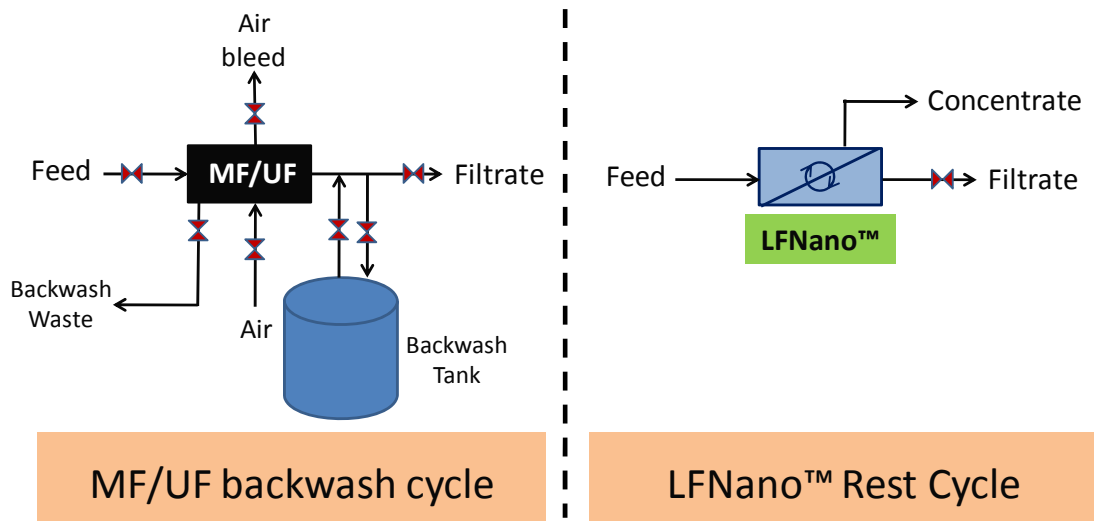

Figure 5 – Backwash Cycle vs. LFNano™ Rest Cycle
The rest cycle of the LFNano™ contrasts to the backwash cycle of a low-pressure filtration pretreatment as a means of flux restoration. The ultrafiltration (UF) and microfiltration (MF) systems commonly used in pretreatment today require a frequent backwash cycle to maintain flux. This backwash cycle is a very mechanically complex process requiring seven (7) valves working together every 20 to 60 minutes. By contrast the LFNano™ rest cycle requires a single valve operated one to four times per day. The simplicity of controls and the reduction in maintenance is great. Figure 5 shows schematically the two processes with the automatic valves shown in red. Automatic valves represent moving parts and therefore points of failure.